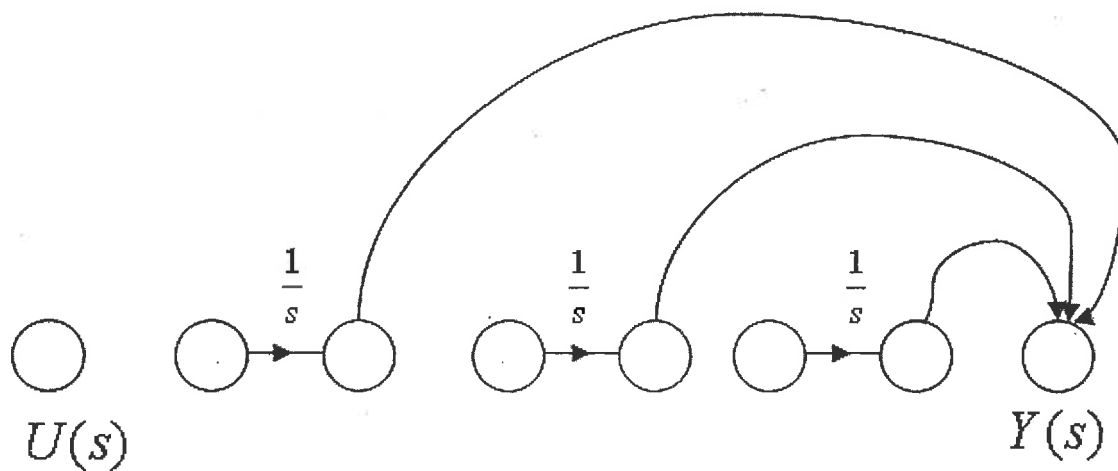

Figure Q7.2: Complete the Signal Flow Graph here.
- 1) In the space provided in Figure Q7.2 below, complete a signal flow graph diagram so that it will represent $G(s)$. Note that there are several different possible realizations of this transfer function.